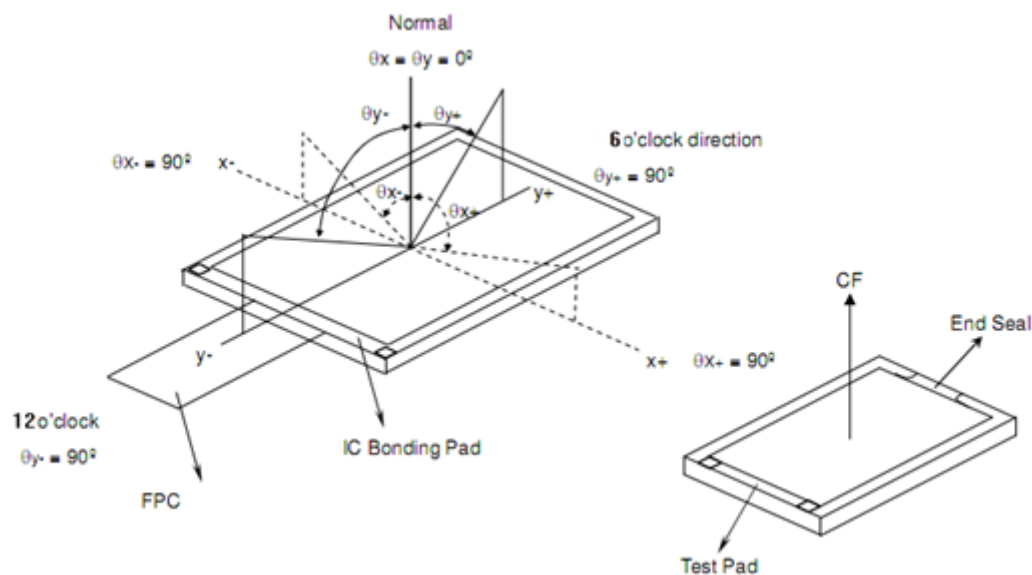

Figure 3.Definition of viewing angle
- 6. The electro-optical response time measurements shall be made as FIGURE 3 shown in Appendix by switching the “data” input signal ON and OFF. The times needed for the luminance to change from 10% to 90% is Tr, and 90% to 10% is Td